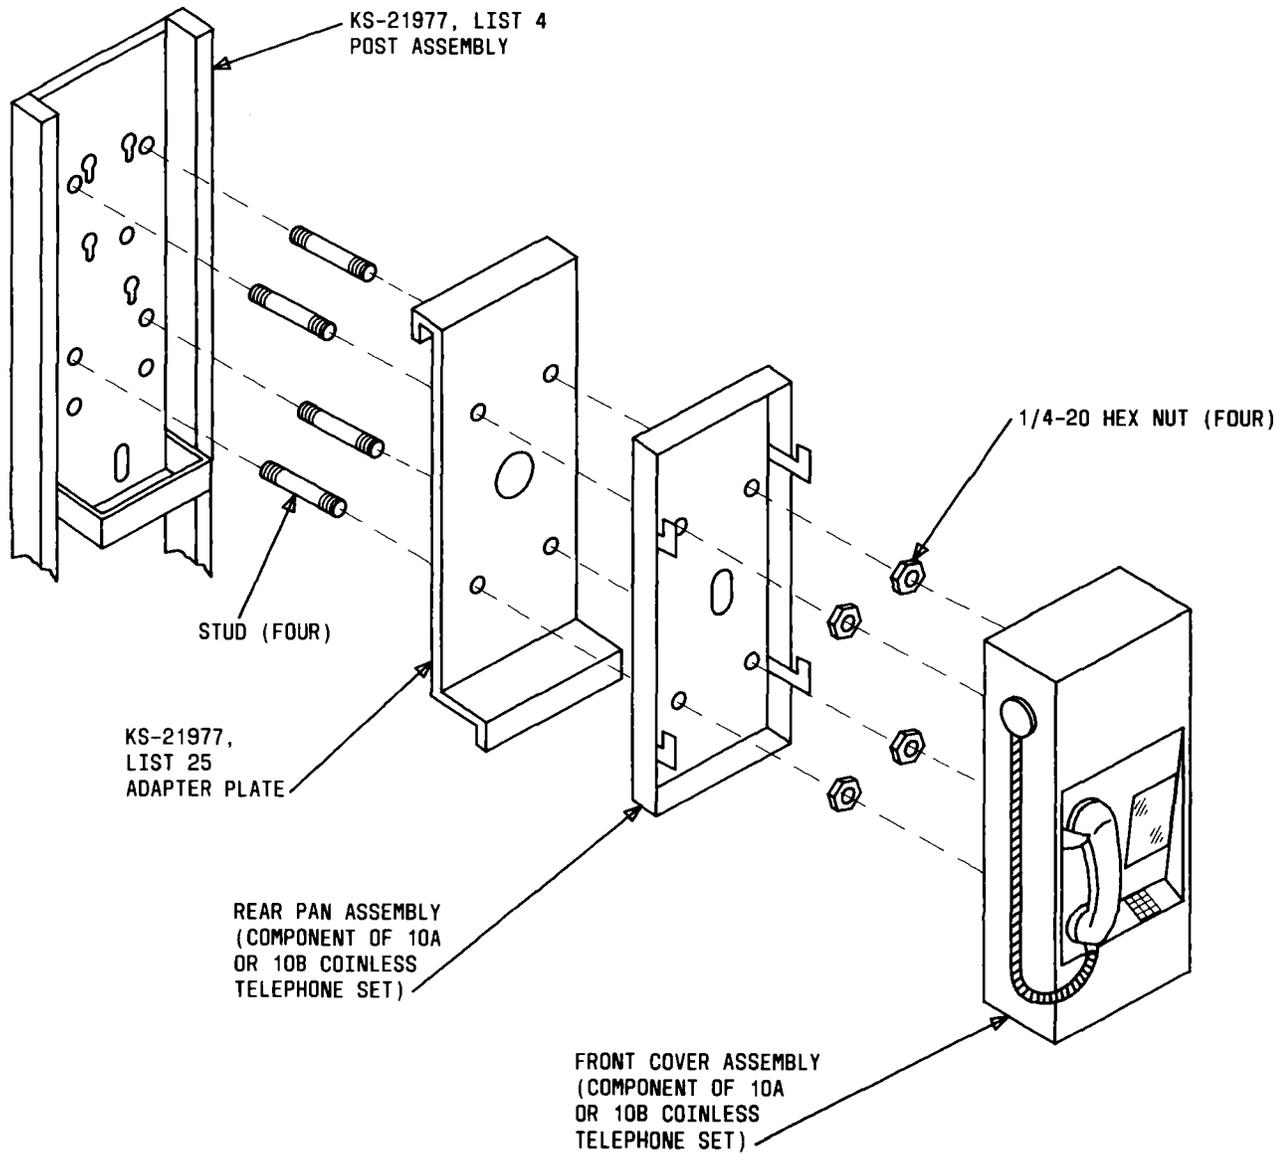

Fig. 6—KS-21977, List 25 Adapter Assembly for use With 10A or 10B Coinless Public Telephone Set
E. KS-21977, List 25 Adapter Assembly (Fig. 6)